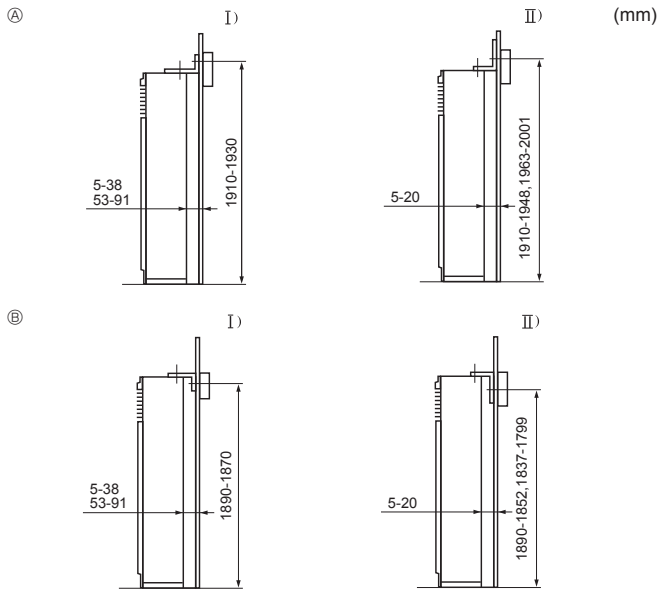

Fig. 3-3
① Tip-over prevention bracket
The tip-over prevention bracket ① is set on the top surface of the unit. Remove the tapping screws ②, and then reinstall the bracket, as shown in the illustration. For the proper installation distances, see Fig. 3-3.
#### 3.3. Mounting the tip-over prevention bracket (Fig. 3-3)